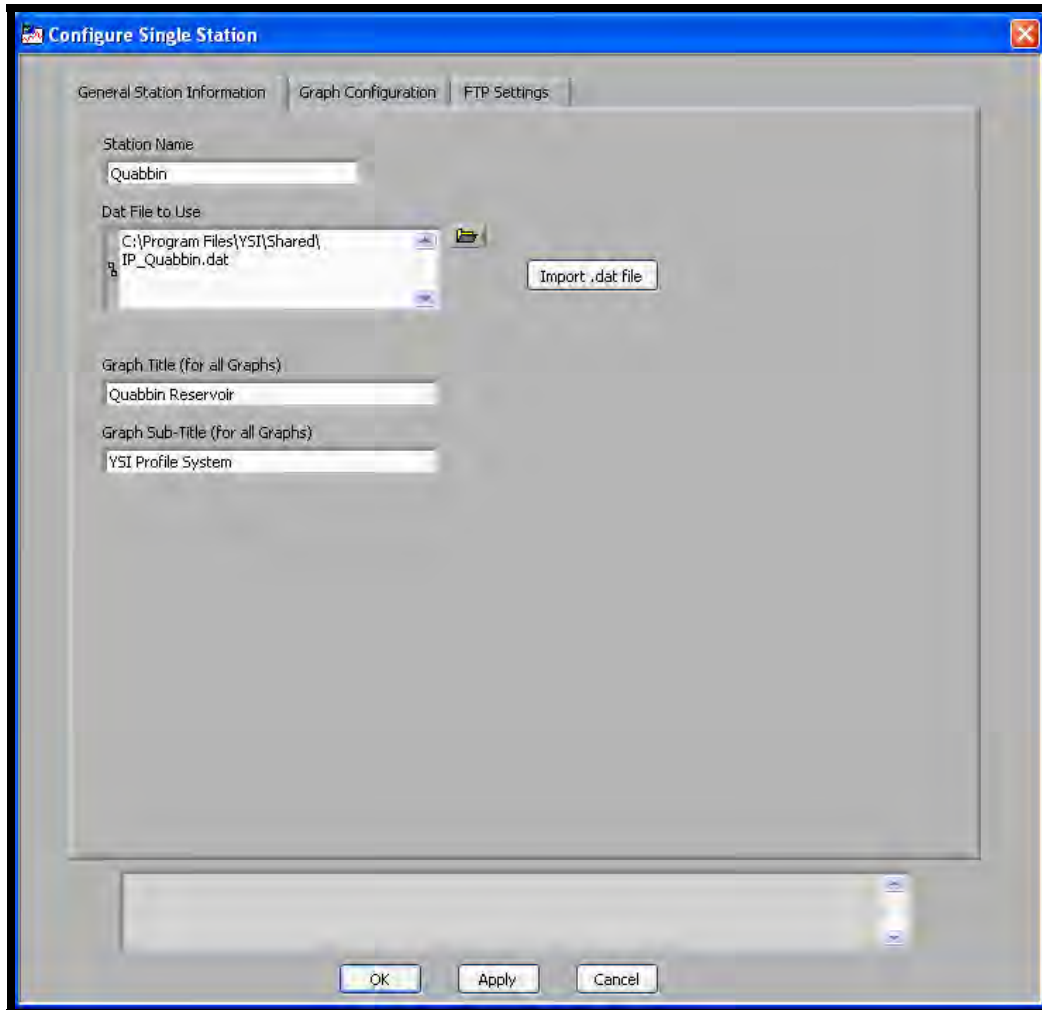

Figure 7-10 Configure Station Information screen
Setting up an automated station is a three (3) step process. You will use the three (3) tabs in the screen above (Figure 7-10). The setup requires that you: